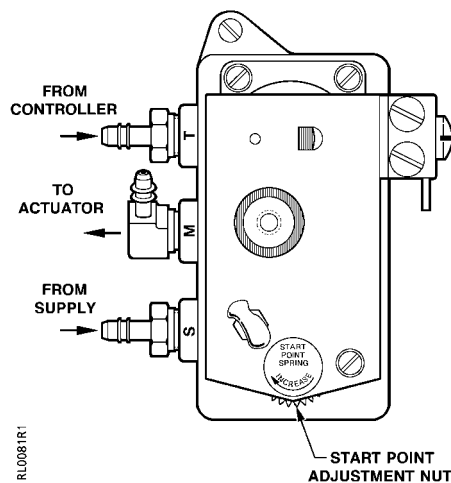

Figure 5. Start Point Adjustment.
See Figure 5.
4. If this is not the desired start point pressure, turn the start point adjustment nut (Figure 5) clockwise to increase the start point pressure and counterclockwise to decrease the pressure.